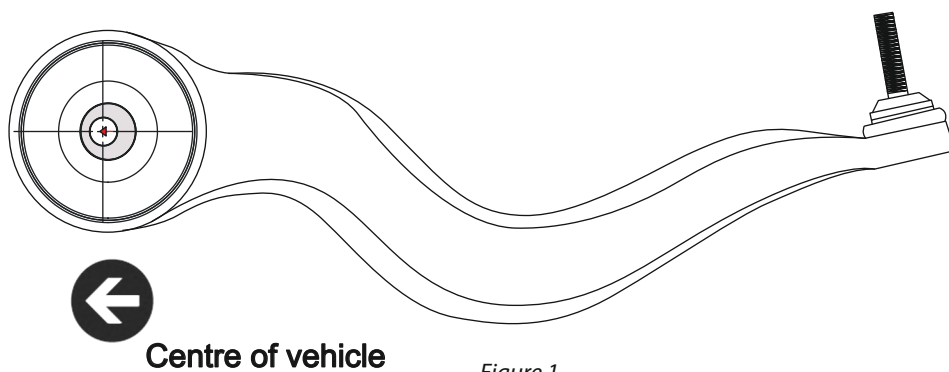

Figure 1
5. Apply the supplied grease into the bore of the polyurethane bush, and insert the stainless steel sleeve into the bush with bore positioned closest to centre of vehicle, as shown in Figure 1.